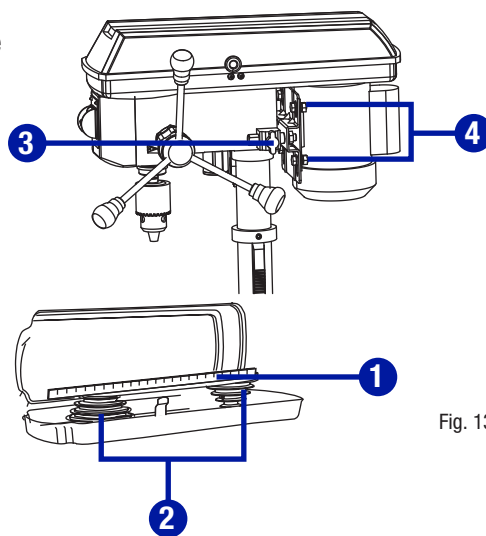

Fig. 13
**ALIGN THE BELT PULLEYS (Fig. 13)**
- Check the alignment of the pulleys with a straight edge (1) (such as a ruler, level, or framing square) by laying the straight edge across the top of the pulleys (2).
- If the pulleys are NOT aligned, release belt tension by loosening the belt tension lock knobs (3) on both sides of the head.
- Loosen the motor mount nuts (4) with an adjustable wrench, and lower or raise the motor until the pulleys are aligned.
- Tighten the motor mount nuts (4) with an adjustable wrench to maintain the position.
- Lock the motor for the proper belt tension and tighten the tension lock knobs (3).